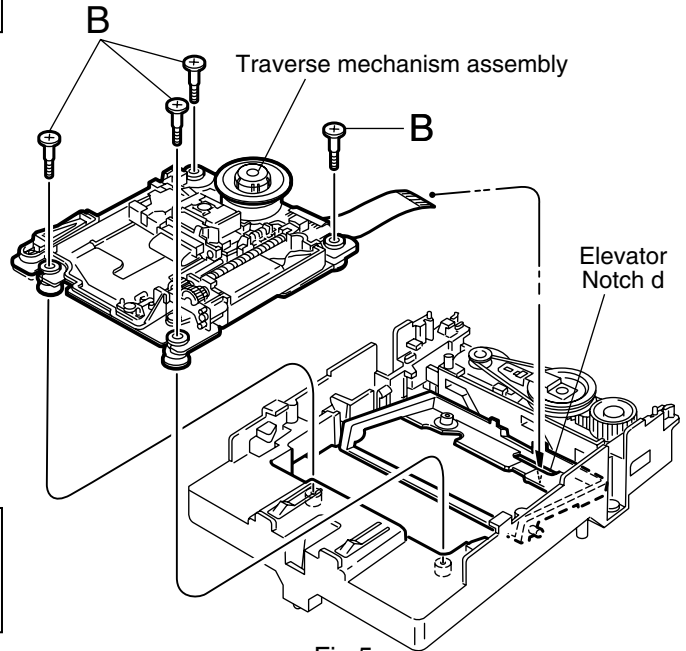

Fig.5
Please refer to "Fig.5" of "Disassembly method" for details.
■ Removing the servo control board (see Fig.5)